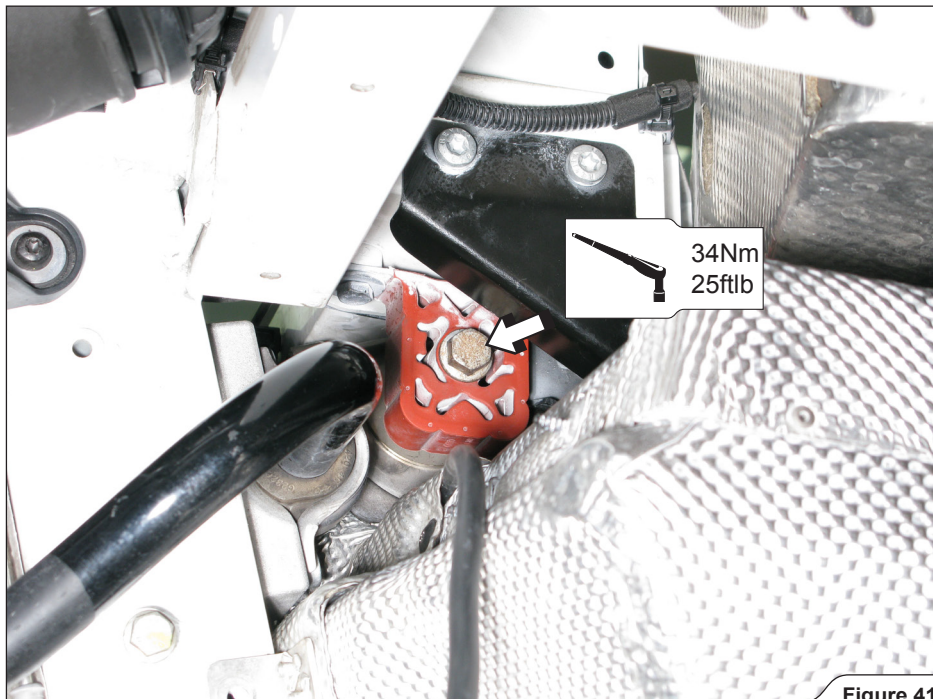

Figure 41
- Carefully attach the assembled muffler onto the chassis, using original bolts, washers and distance bushes; tighten the bolts to a specified torque (**Figure 41, 42**).